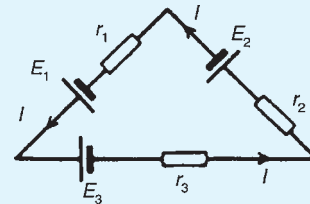

Figure 13.89
- Which of the following statements is true? For the circuit shown in Fig. 13.89: